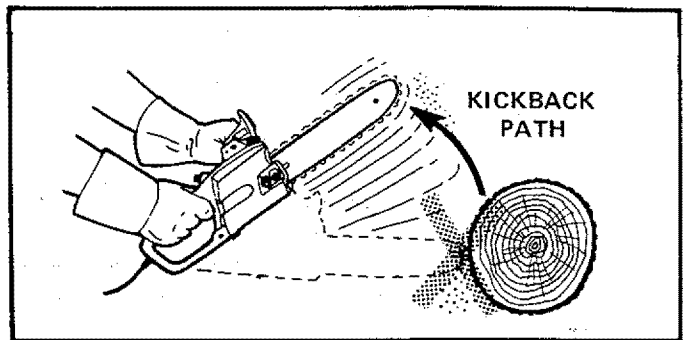

Figure 12
- b. **Never let the moving chain contact any object at the tip of the guide bar.** Figure 12.